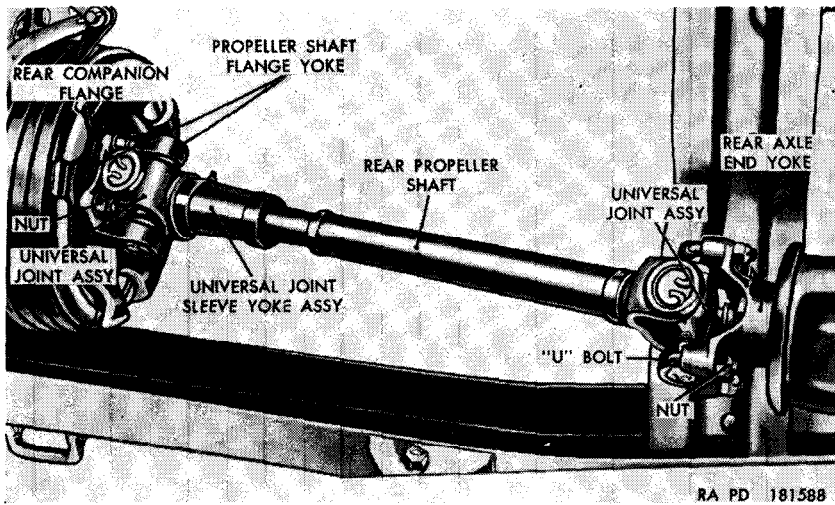

Figure 92. Rear propeller shaft with universal joint assemblies—installed.
- (2) Remove the four nuts from the two U-bolts holding the universal joint assembly to the front axle end yoke. Remove the two U-bolts and remove the front propeller shaft with universal joint assemblies from the vehicle.
b. Remove Rear Propeller Shaft with Universal Joint Assemblies (fig. 92).
- (1) Remove the four nuts from the two U-bolts holding the universal joint to the rear axle end yoke. Remove the two U-bolts and separate the joint from the yoke.